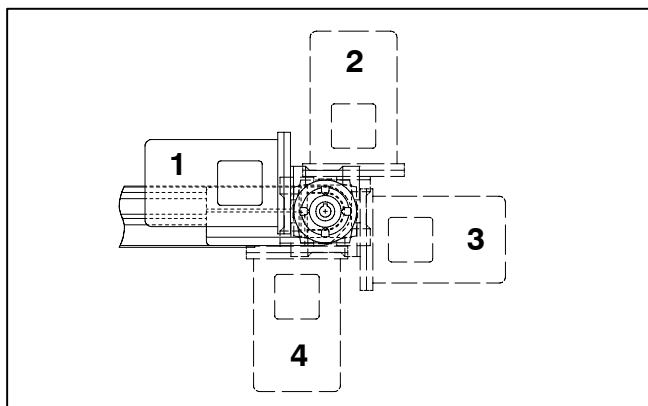
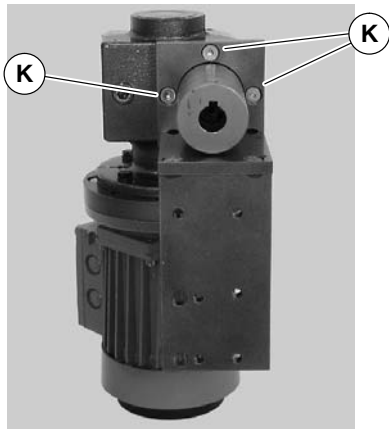

Figure 3
Figure 6
NOTE: Gearmotor may be operated in positions 1, 2, 3 or 4 (Figure 3).
4. If required, change gearmotor position by removing screws (K of Figure 6). Rotate gearmotor to other position (Figure 3) and replace screws (K). Tighten to 110 in-lb (12 Nm).